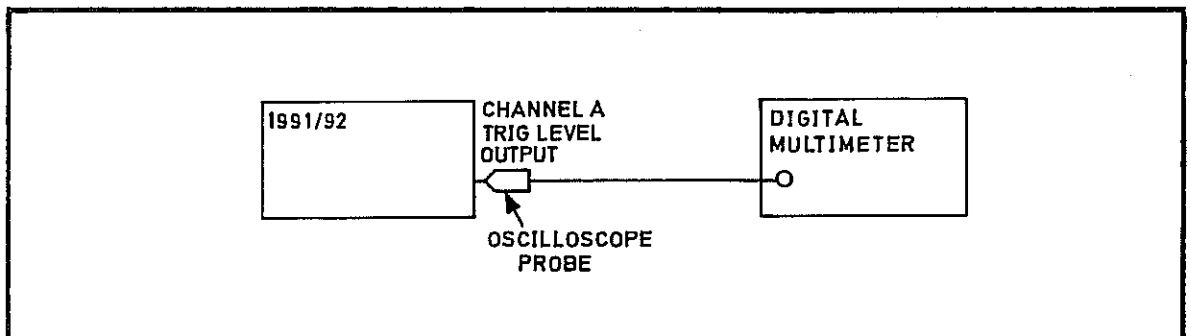

Fig 7.25 Connections for Trigger Level PVP
- (1) Connect the test equipment as shown in Fig 7.25.
- (2) Set the multimeter to measure DC volts.
- (3) Press **TRIG LEVEL** **5** **TRIG LEVEL** on channels A and B.
- (4) Verify that the multimeter indicates  $+5\text{ V} \pm 60\text{ mV}$ .
- (5) Transfer the probe to the channel B TRIG LEVEL OUTPUT pin and verify that the multimeter indicates  $+5\text{ V} \pm 60\text{ mV}$ .
- (6) Press **TRIG LEVEL** **0** **TRIG LEVEL** on channels A and B.
- (7) Verify that the multimeter indicates  $0\text{ V} \pm 10\text{ mV}$ .
- (8) Transfer the probe to the channel A TRIG LEVEL OUTPUT pin and verify that the multimeter indicates  $0\text{ V} \pm 10\text{ mV}$ .
- (9) Press **TRIG LEVEL** **5** **SHIFT** **±** **TRIG LEVEL**
- (10) Verify that the multimeter indicates  $-5\text{ V} \pm 60\text{ mV}$ .
- (11) Transfer the probe to the channel B TRIG LEVEL OUTPUT pin and verify that the multimeter indicates  $-5\text{ V} \pm 60\text{ mV}$ .